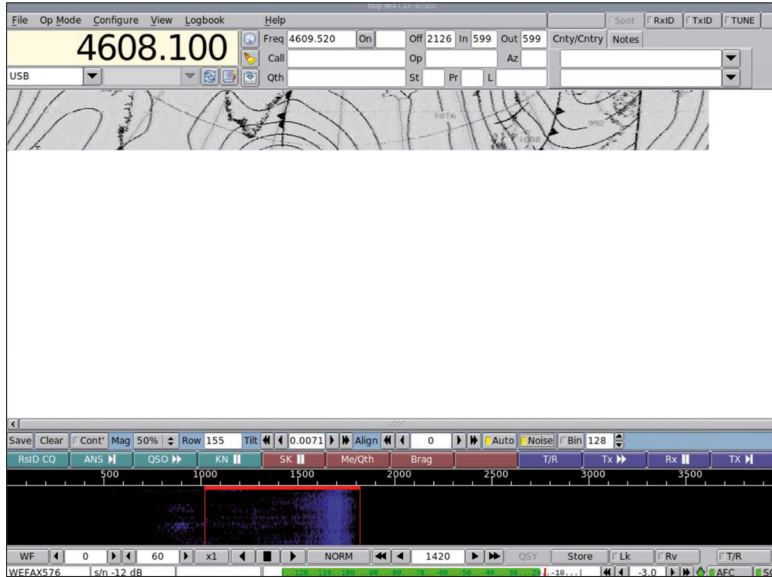

Figure 13.11: The screen as the data is received.
- Notice that the image is built in real time on the fldigi screen as data is received. The row number is increased and the signal meter moves to indicate data reception. The row counter will stop when the data reception is complete. Figure 13.11 shows the fldigi screen as the data is received.